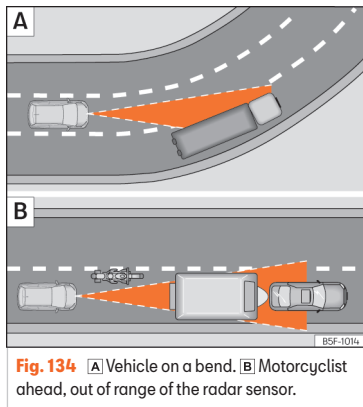

Fig. 134 **A** Vehicle on a bend. **B** Motorcyclist ahead, out of range of the radar sensor.
The ACC may not detect the vehicle in front on a curve, or may regulate the distance from vehicles in other lanes » » **Fig. 134** A.
- Vehicles that are not aligned while driving or that are outside the sensor's detection area, such as motorcycles » » **Fig. 134** B.